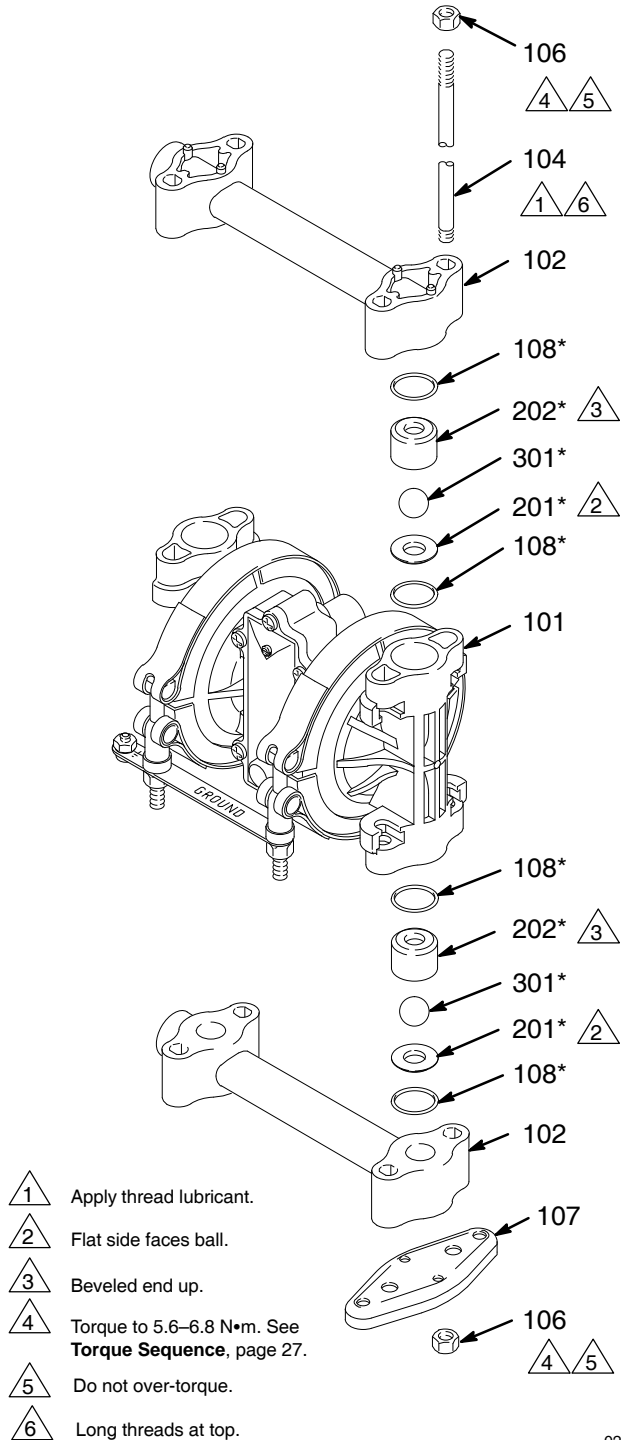

Fig. 13
2. Using a 1/2" socket wrench, remove the nuts (106) holding the top manifold (102) to the covers (101). Lift the manifold off the pump. See Fig. 13.
3. Remove the outer o-ring (108), ball guide (202), ball (301), seat (201), and inner o-ring (108) from each of the covers.
4. Turn the pump over. Pull the tie rods (104) out of the pump, leaving the four nuts (106) on the rods. Remove the feet (107) and lower manifold (102).
5. Remove the outer o-ring (108), seat (201), ball (301), ball guide (202), and inner o-ring (108) from each of the covers (101).
7. Reassemble the intake ball checks in the bottom of the pump, following all notes in Fig. 13. Be sure the ball checks are assembled **exactly** as shown.
8. Set the lower manifold (102) and feet (107) in place on the bottom of the pump.
9. Insert the long threads of each rod (104) through the feet and lower manifold. Push the rods up through the covers (101) until the nut (106) on the end of the rods bottoms on the foot. Make sure the rods are pushed all the way through. Turn the pump upright (the rods are a slight interference fit and will hold the pump parts securely in place).
10. Reassemble the outlet ball checks in the top of the pump, following all notes in Fig. 13. Be sure the ball checks are assembled **exactly** as shown. To avoid pump leakage, run your finger over the o-rings (108) and ensure that they are seated properly.
11. Install the top manifold (102) and four nuts (106). Torque to 5.6–6.8 N•m. **Do not over-torque.** See **Torque Sequence**, page 27.